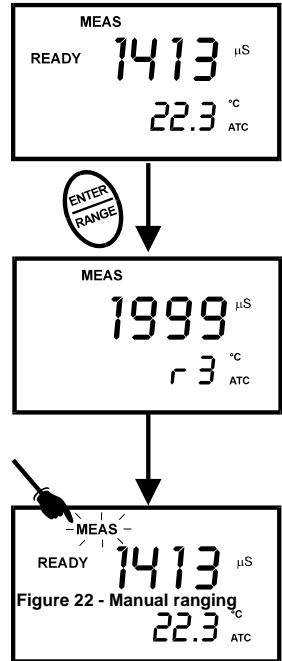

Figure 22 - Manual ranging
1. To select the desired measuring range, press the **RANGE** key while in Measurement mode. The first range will appear on the display and the “MEAS” indicator blinks. See Figure 22.